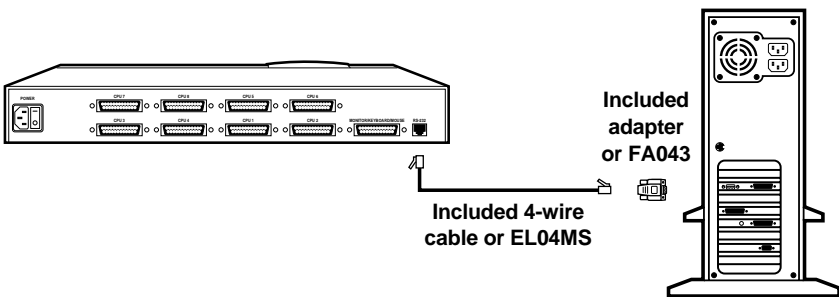

Figure 12. RS-232 connection to DB9 male computer port.
- If you are connecting the Switch directly to a **DB9 male**  **computer** serial port, use the 4-wire cable and the DB9 female adapter that came with the Switch, as shown in Figure 12. (If you lose the cable, you can replace it with our product code **EL04MS**. If you lose the adapter, you can replace it with our product code **FA043**.)